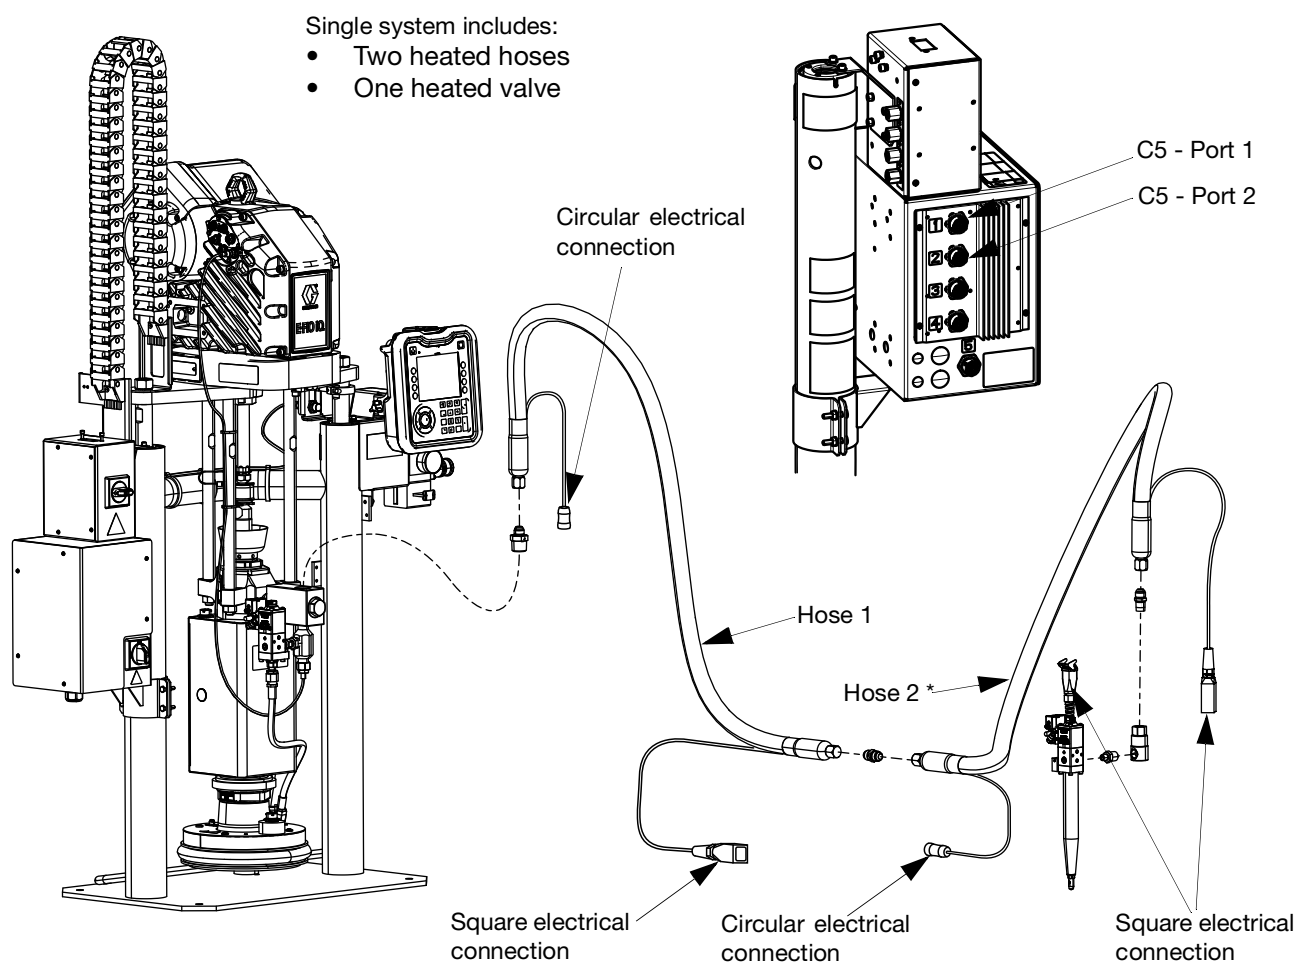

FIG. 33
- Heated valve - Square electrical connections from hose 2 to iQ dispense valve (B). See FIG. 33.